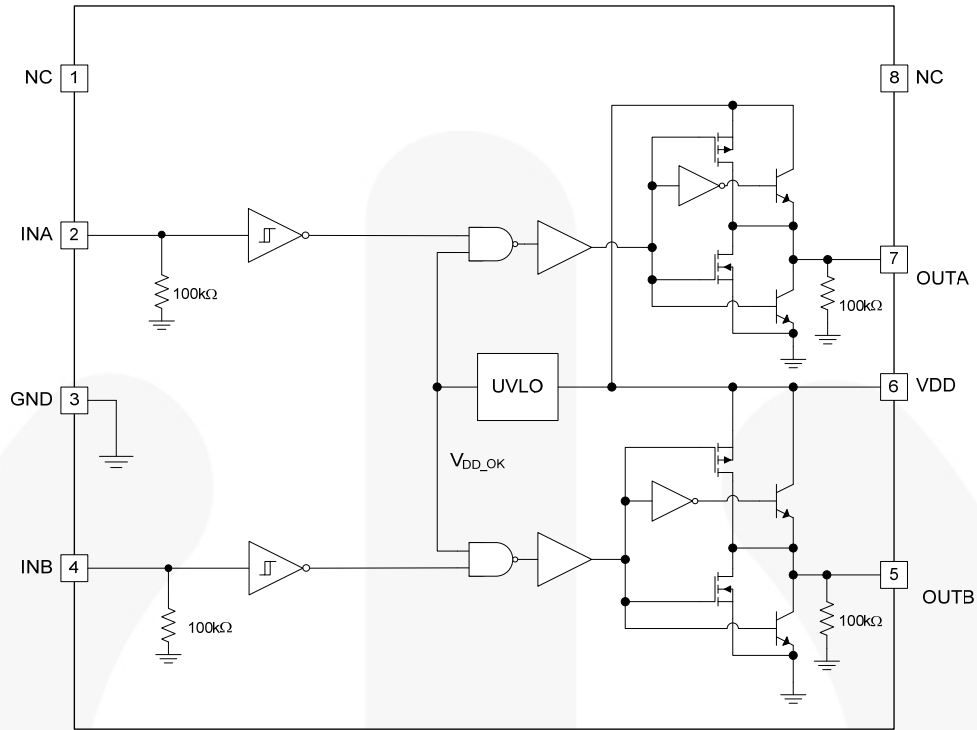
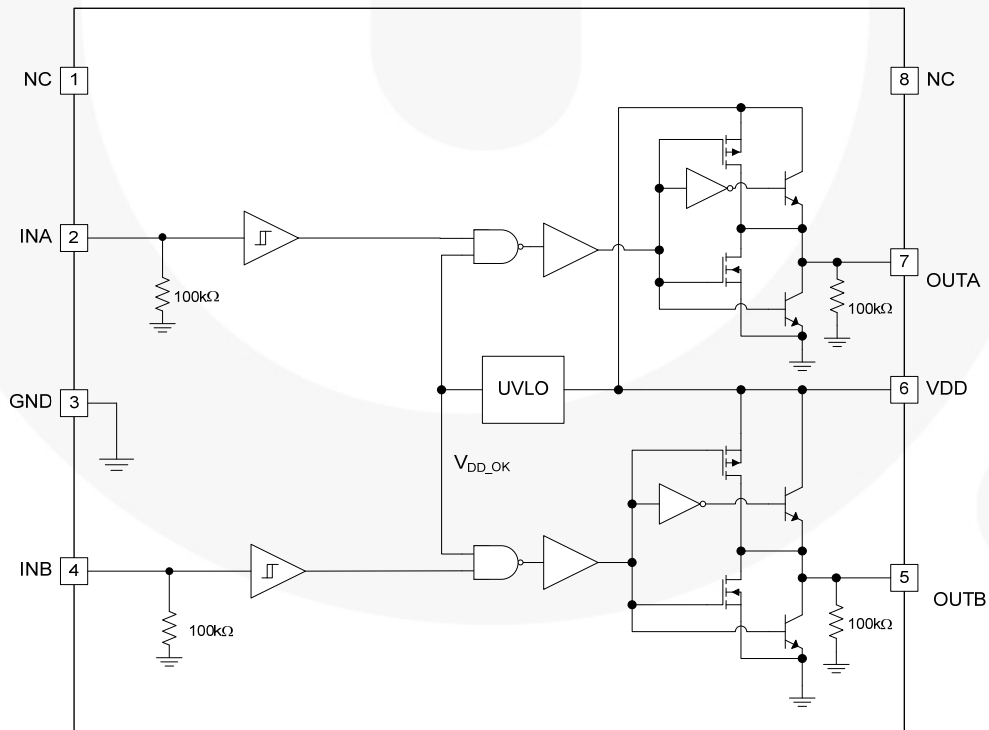

Figure 4. FAN3213 Block Diagram
Figure 5. FAN3214 Block Diagram
10. For any inverting inputs pulled LOW, non-inverting inputs pulled HIGH, or outputs driven HIGH; static I_{DD} increases by the current flowing through the corresponding pull-up/down resistor shown in Figure 4 and Figure 5.